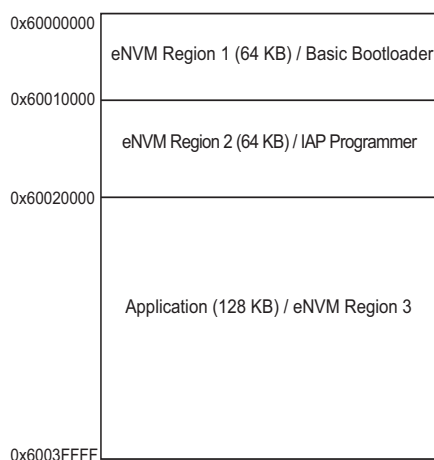

Figure 3 • Example of Partitioning the eNVM for Mutually Exclusive Executable Images
- Application/eNVM Region 3: The IAP Programmer running from eSRAM programs this region using the *.dat file provided by you. This program is launched by either the IAP Programmer after programming the *.dat file into this region successfully, or by the bootloader if this has been programmed earlier based on your selection. Figure 3 illustrates the partitioning of the eNVM for mutually exclusive executable images.
The memory regions shown in Figure 3 are used in this application note as a example memory map. There is no specific rule for the memory maps for the applications. The memory maps explained in this application note are just for reference. As per the applications memory, these requirements can be changed and the corresponding linker scripts can be generated.
As explained in the Figure 3 on page 4, we will be having two images in eNVM apart from the bootloader from which you can provide the input about the application that has to be executed by the bootloader. The Bootloader is also provided with the timeout feature in which if you do not select any input for booting within the timeout period, the bootloader boots the default sample application image from Region 3. In the design files provided for this application note, the boot time parameter is provided in the `boot_config.h` file. Timeout can vary by changing this parameter as per the applications requirements.